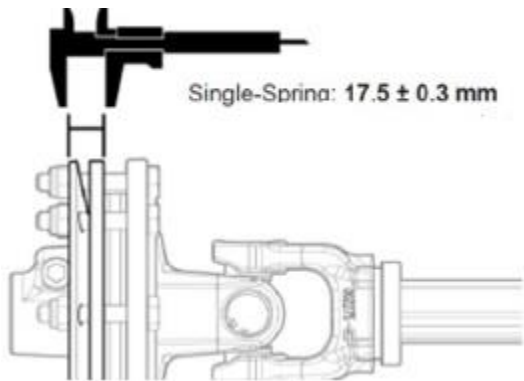
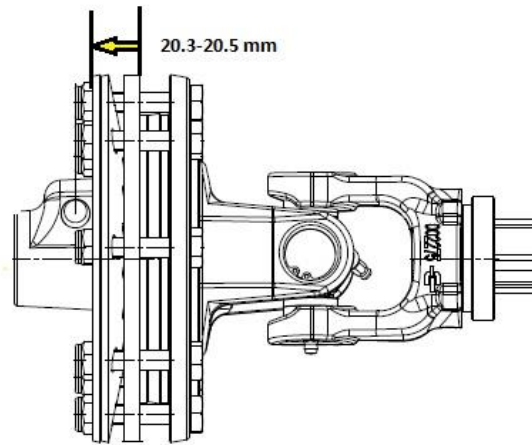

Figure 3 (Single Spring)
Figure 4 (Double Spring)
- Once the clutch is burnished tighten the bolts in the same crossing pattern until the dimension of between the spring and plate is reached at each bolt location, Figure 3, and Figure 4. Tighten the bolts 2 flats and then go to the next bolt.
- On early 2017 units there are single spring clutches. These clutches should be adjusted to 17.5 mm plus or minus 0.3 mm. Figure 3
- During the Model Year 2017 production changed to two spring clutches. The two spring slip clutches must measure 20.3-20.5mm, at each bolt location. Each bolt on the clutch must measure in the 20.3-20.5mm range, Figure 4